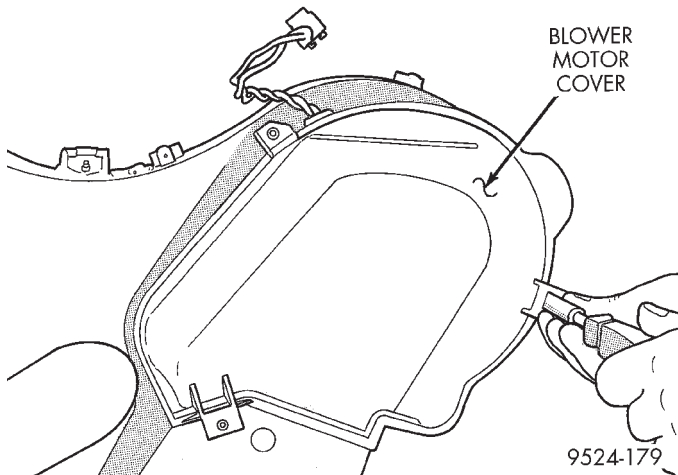

Fig. 15 Blower Motor Cover
- (1) Remove glove box. Refer to Group 8E, Instrument Panel and Systems.
- (2) Remove (4) hex head screws to blower motor cover (Fig. 15).
- (3) Disconnect blower motor wiring.